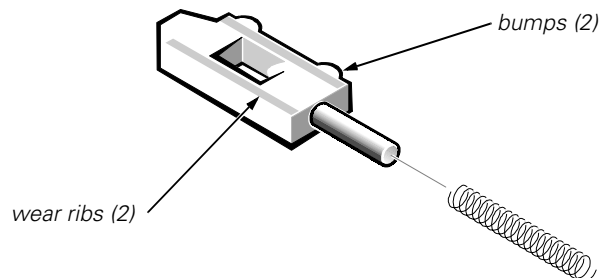

Figure 25. Left Module Latch and Spring
6. Remove the left module latch button from the bottom case assembly by carefully squeezing the snap tabs (see Figure 25).
- b. Ensure that the slider is inserted in its respective hole, that the side of the latch with the two bumps is facing the back of the case, and that the surface with the wear ribs is facing the bottom of the case (see Figure 25).